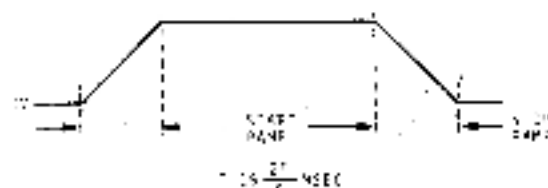

Figure 5-9 Ramp Time Adjustment
**5.6.3.2 Ramp Time Adjustment** – Tape is brought up in speed at constant acceleration. To control tape velocity, a ramp voltage is generated by the ramp generator which rises linearly to the required running speed and falls linearly to zero at stop (Figure 5-9). Ramp time should accelerate the tape to running speed in 0.19 in. of travel. This timing is of utmost importance in gap generation on tape and must be accurately set. Ramp time is 15 ms at 25 in./sec and varies inversely with speed. Thus, at 12.5 in./sec it is 30 ms and at 37.5 in./sec it is 10 ms. This voltage may be observed at test point A of the ramp generator card.